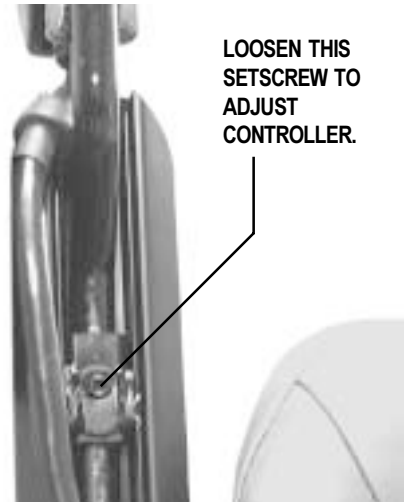

Figure 10. Controller Extension
2. Slide the controller into or out of the armrest to the desired position. See figure 10.
3. Use a hex key to loosen the setscrew. See figure 10.